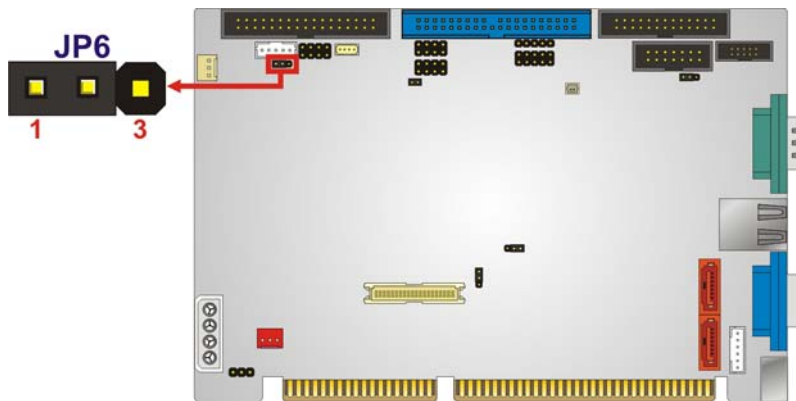

Figure 4-8: LCD Clock Select Jumper Location
- Jumper Location:** See Figure 4-8